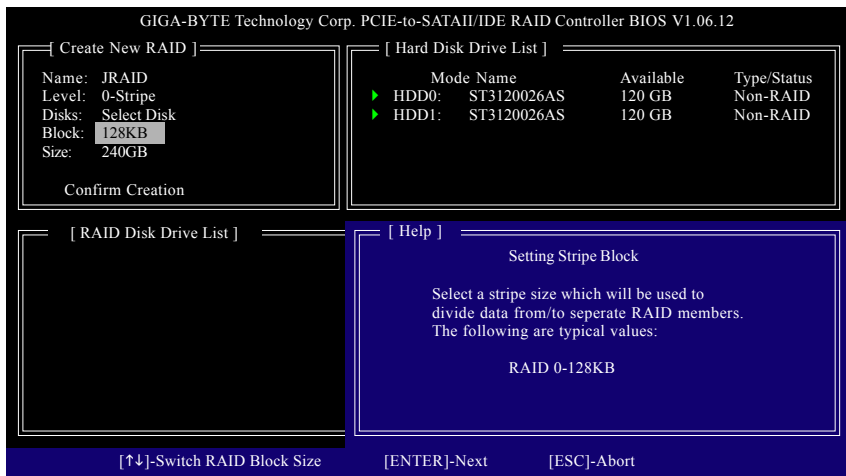

Figure 7
- 4. Set Block Size (only for RAID 0):** Under the **Block** item, use the UP or DOWN ARROW key to select the block size (Figure 7), ranging from 4K to 128K. Press ENTER when finished.